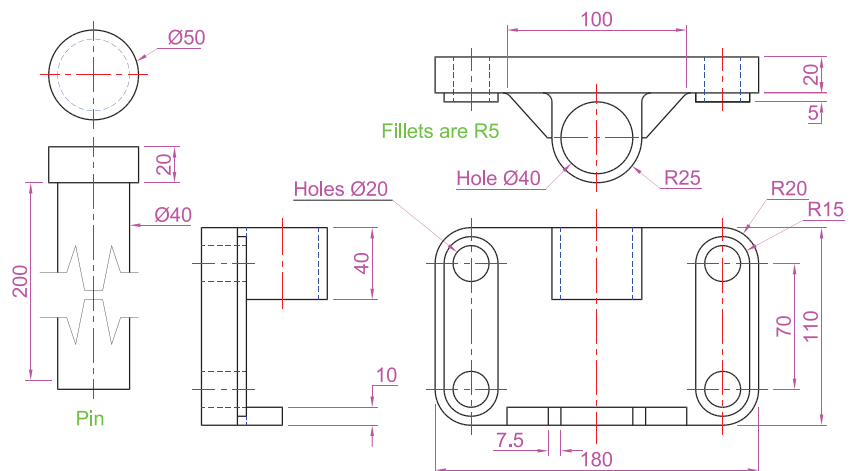

Fig. 18.15 First example – 3D models – details of sizes and shapes
1. **Front view.** Construct the three extrusions for the back panel and the two extruding panels to the details given in Fig. 18.15.